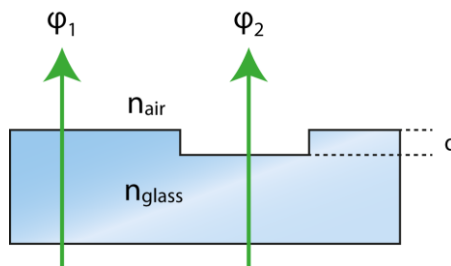

Figure 6: Illustration of the grooves in the glass sample
- c) The sample you recorded holographically is a piece of glass where grooves of a certain depth *d* have been etched on the surface. This is illustrated in Figure 6. Because the light travels through a different thickness of glass when passing inside the grooves versus outside the grooves, a phase difference is observed in the hologram. The depth of the groove can be estimated from this phase difference using the following formula: